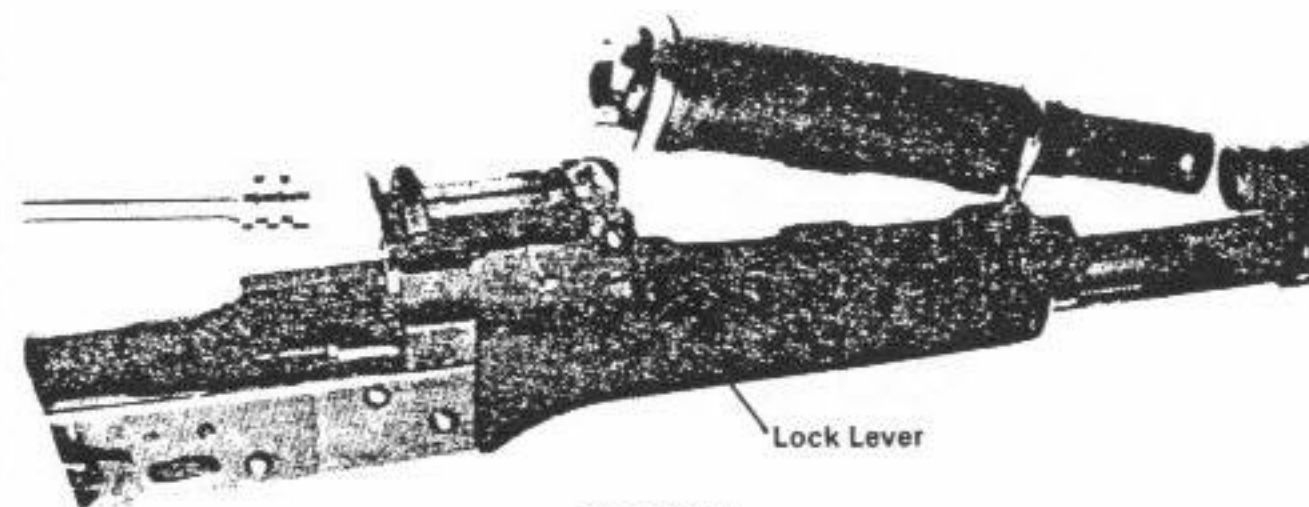

Figure 18a
8. To remove the upper handguard with gas cylinder lift up on the lock lever located on the right side of the rear sight until it will allow the upper hand-guard with gas cylinder to be removed. (See figure 18a.)